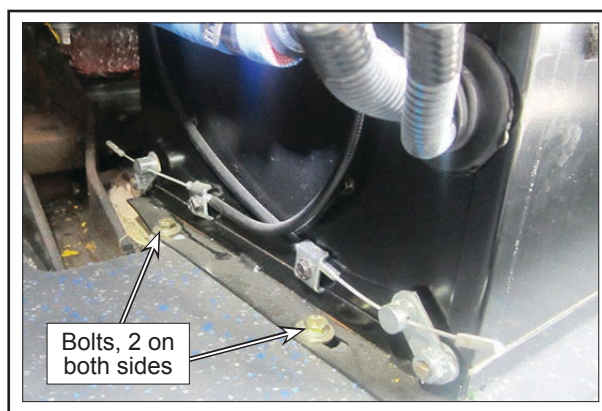

Figure 7 - Bottom of the heater
- 1.8. Loosen the four bolts at the bottom of the heater (to avoid damaging the seal at the back). See Figure 7.